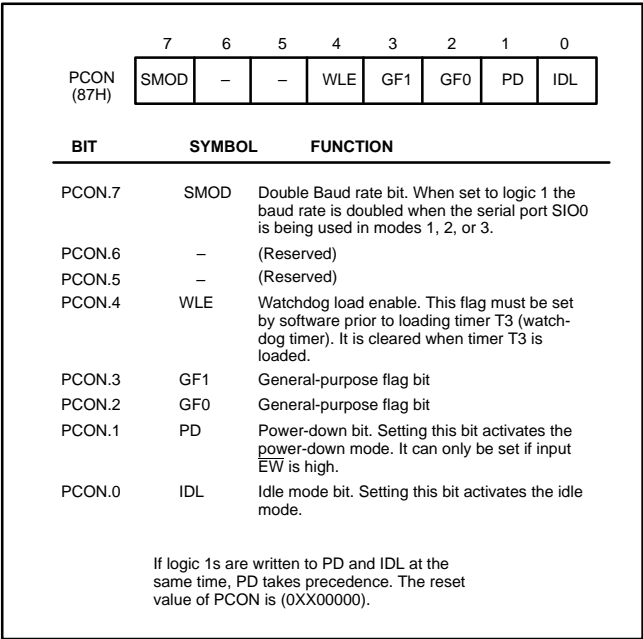

Figure 41. Power Control Register (PCON)
**Power Control Register PCON:** The idle and power-down modes are entered by writing to bits in PCON. PCON is not bit addressable. See Figure 41.